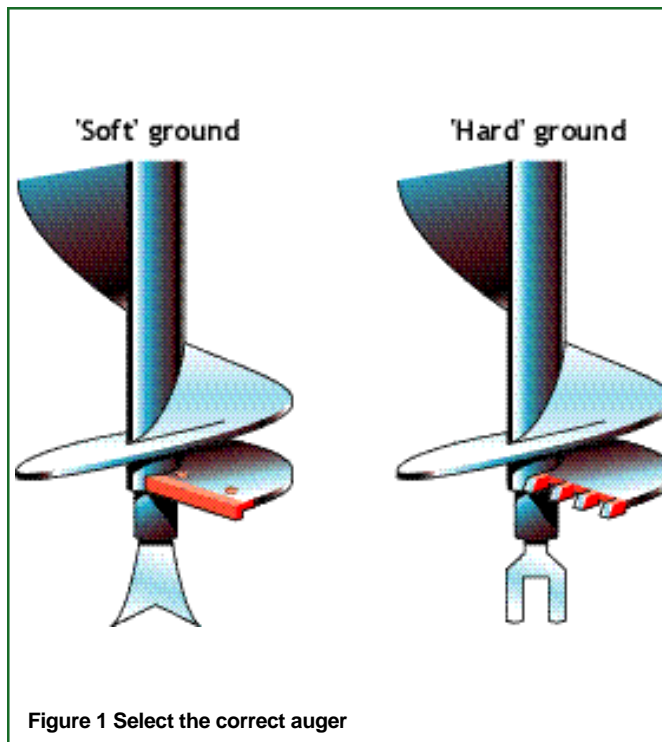

Figure 1 Select the correct auger
- 15 Select the correct auger for the type of operation and ground (see Figure 1).